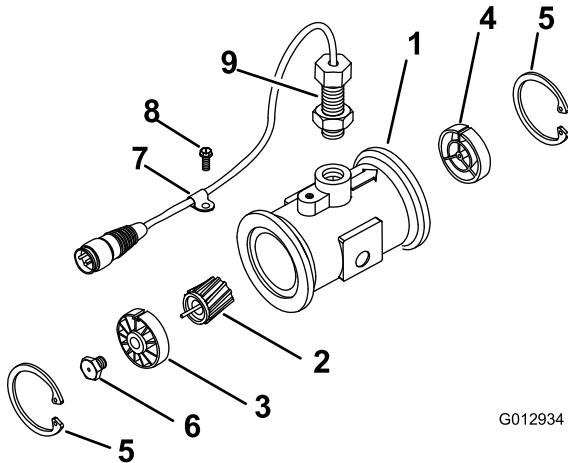

Figure 65
3. Remove the retainer ring on the upstream side (Figure 65).